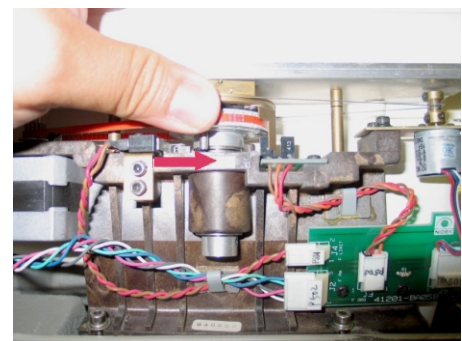

FIGURE 7
- 8) Before installing the feeler arm, you must rotate the brass pulley counter-clockwise until it will not turn any further. (See Fig 7.) Then, put any washers removed earlier back in place, install the feeler arm and the allen screw that holds it in place.